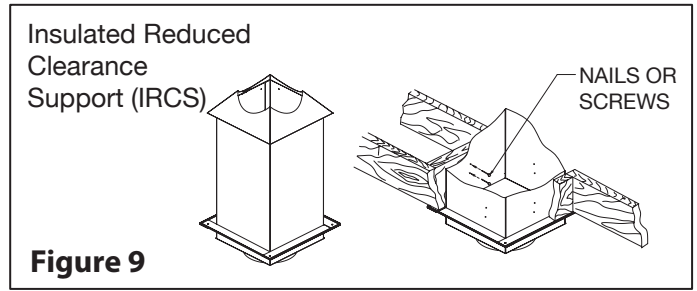

Figure 9
When using the Insulated Reduced Clearance Support (IRCS) at the attic level, the use of the adjustable attic insulation shield (AAIS) is not required. The Insulated Reduced Clearance Support (IRCS) acts as an attic radiation shield when installed with insulation and collar (provided). See figure 9.
Step 3: From below, push the Insulated Reduced Clearance Support into the framed opening in the ceiling. Ensuring the support is level, attach the support to the framed opening using (12) - 3" spiral nails or #8 x 1 1/2" wood screws (see Figure 9). A minimum of 3 1/2" of the support must extend into the room. Screw the Finish Trim (included) to the ceiling.